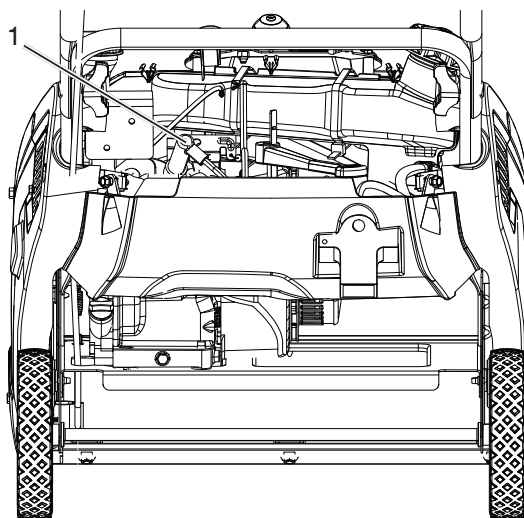

Figure 28
8. Disconnect the spark plug wire from the spark plug (Figure 28).
13. Connect the spark plug wire to the spark plug (Figure 28).